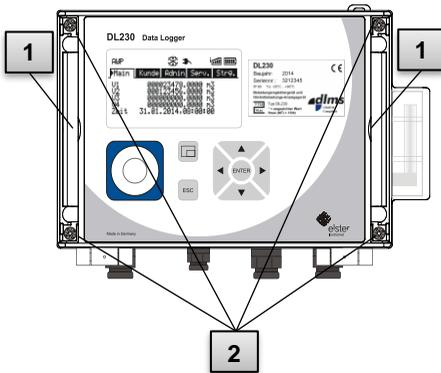

Fig. 21
10. Close the housing using the screws provided (Fig. 21 Pos. 2).